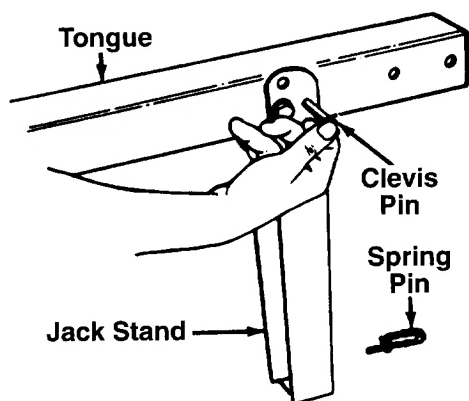

FIGURE 3.
1. The tongue is shipped with the jack stand already attached to the tongue. The jack stand is in the transport position. Remove the spring pin and clevis pin. Pivot the jack stand to the operating position (90°), and secure with the clevis pin and spring pin. See figure 3.